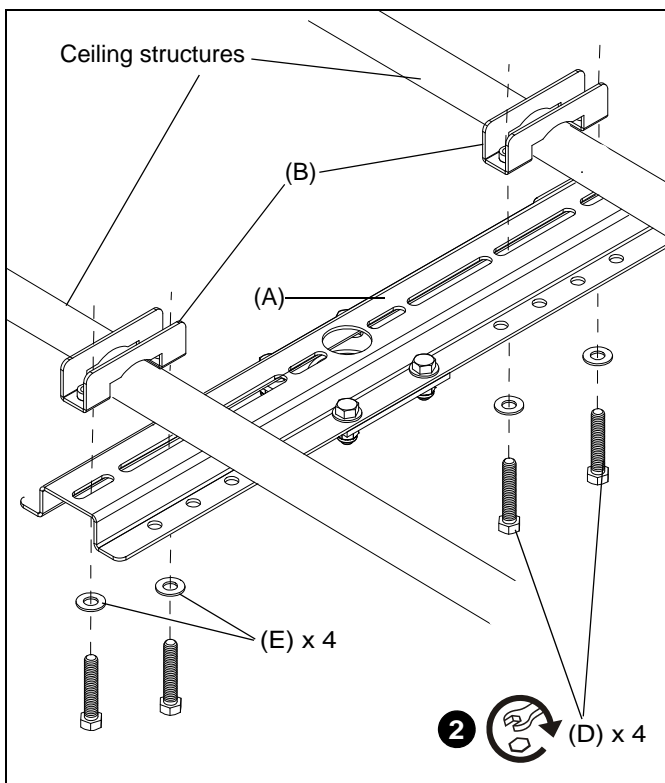

Figure 1
1. Place two U-clamp brackets (B) over supporting truss or pipe (ceiling structure).
2. Raise CMA366 adapter (A) to ceiling structure and secure each U-clamp bracket (B) using two 3/8-16 x 2" bolts (D) and two 3/8" flat washers (E). (See Figure 1)